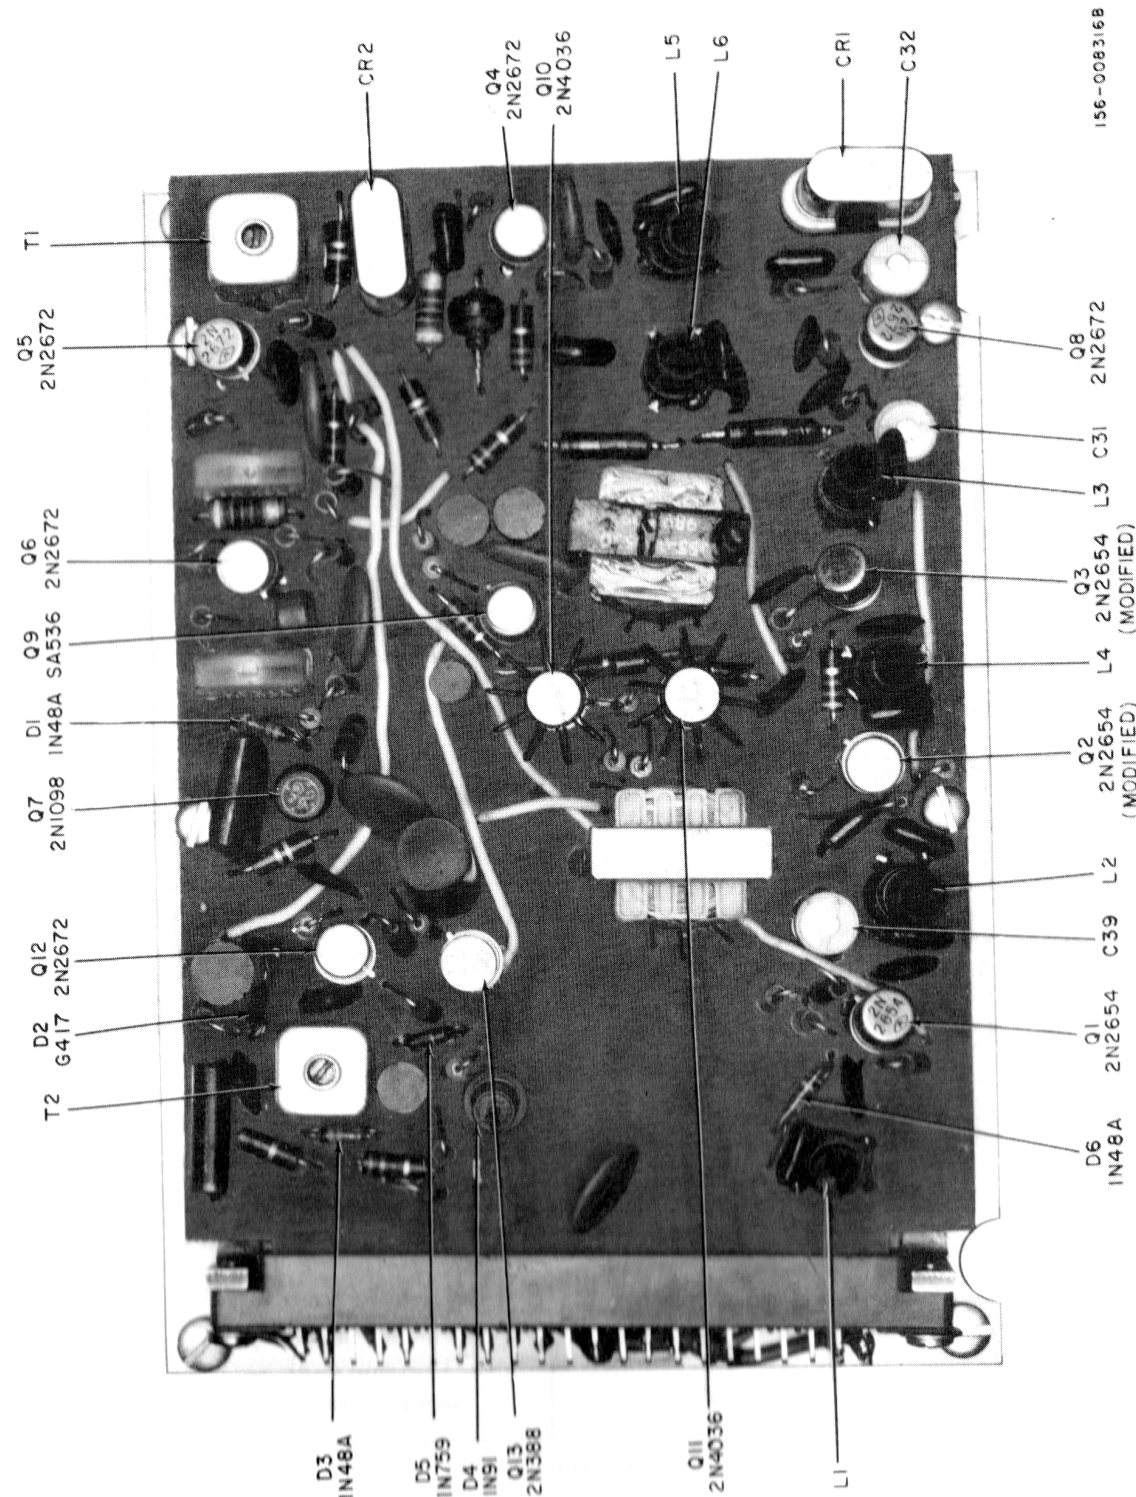

Figure 2. Transceiver Rear View, Crystal, Transistor and Adjustment Locations.
d. Refer to figure 2 and note location of receiver crystal CR1 on receiver printed circuit board. The frequency and letter 'R' stamped on the crystal case denotes channel frequency and receiver application. **DO NOT ATTEMPT TO USE CRYSTALS WITH OTHER MARKINGS, UNLESS CRYSTAL FREQUENCY AND MODE OF OPERATION ARE KNOWN.** The operating frequency of crystal CR1 is 10,455 megacycles below desired channel frequency. The proper frequency range of crystals is between 19,545 and 29,545 megacycles.
15. Table V lists the reference designation, item name or marking, and function of controls on the transceiver. Figures 2, 3, and 5 show their location.
g. Using an insulated alignment tool, adjust first oscillator coil L3, for audible output of the modulated signal at the speaker. Refer to figure 2.
h. Using an insulated alignment tool, adjust RF input transformer L1 and first converter transformer L2 for maximum audible output at the speaker. Refer to figure 2.